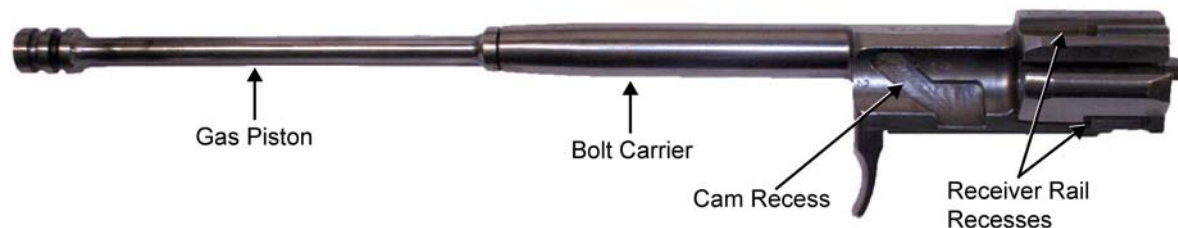

Figure 3. Bolt Carrier Assembly.
- (1) Dry the bolt carrier assembly (bolt carrier and gas piston) and lightly lubricate with CLP. Generously lubricate the cam recess and receiver rail recesses of the bolt carrier. Refer to Figure 3.